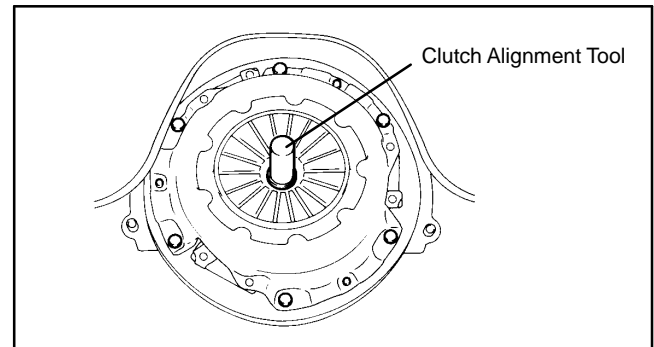

Figure 20
1. Insert clutch alignment tool (see Special Tools in this chapter) in engine flywheel pilot bearing hole to keep clutch disk from falling off (Fig. 20).